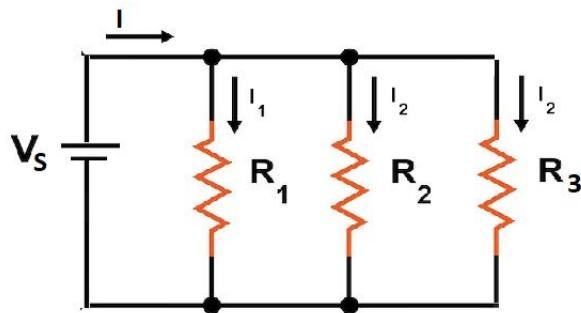

Fig. 2 Circuit for KCL
1. Set up the circuit on the breadboard as shown in the Fig. 2 using the resistors, power supply, and connecting wires.